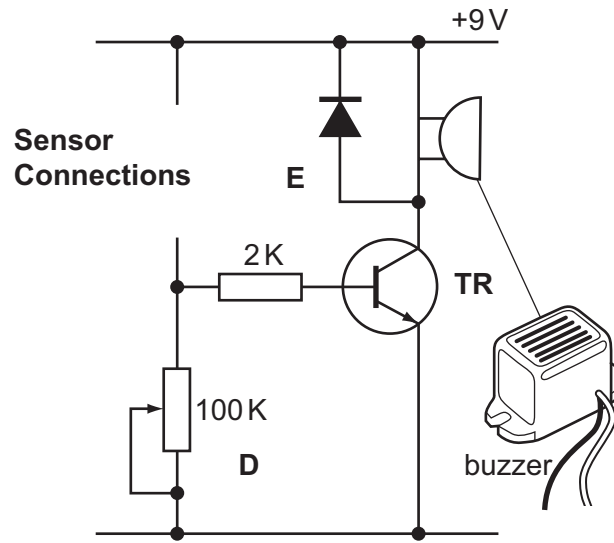

Fig. 2
- (e) Fig. 2 shows a simple circuit that would sound a buzzer if the water level dropped below a pre-set level.